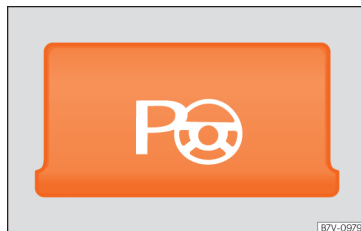

**Fig. 266** Detailed view of the centre console: button to switch the park assist system on manually. »
- Press button . When the function is enabled, the button  **Fig. 266** will light up.